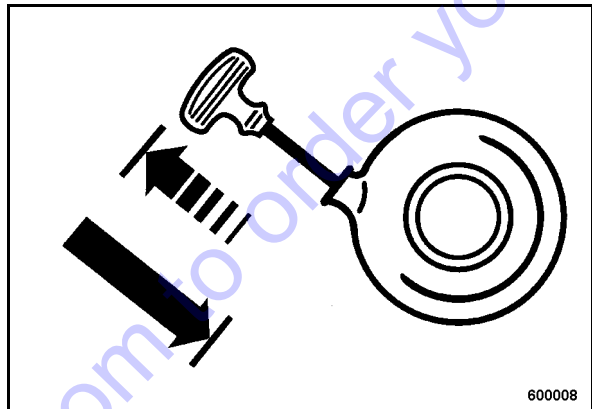

Fig. 18
- Slightly pull the starter handle (Fig. 18), until resistance can be felt (compression pressure), but do not pull out completely.